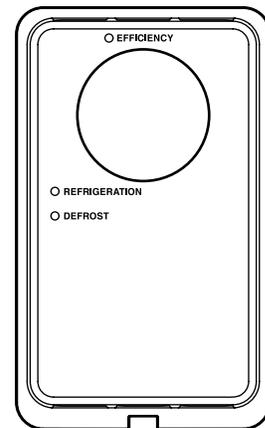

FIG. 2. Existing Dead Front
4. If present, remove the existing dead front cover. See FIG. 2.